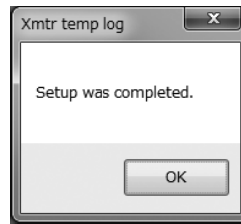

Fig.159
- ④ Click the "OK" button here to display a message box (Fig. 159) and resume the function for saving log entries.